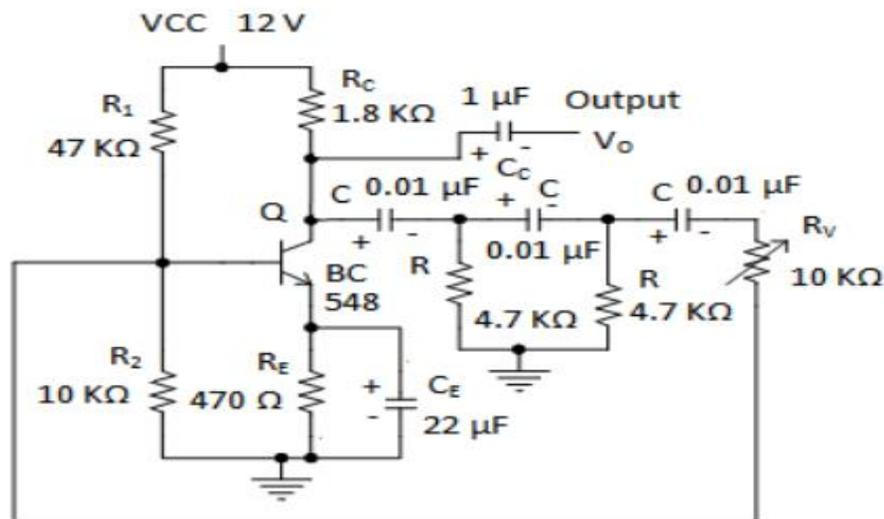

Figure 20.2: Circuit diagram of RC Phase Shift Oscillator
1. Test the components and assemble the circuit on a breadboard as shown in figure 20.2